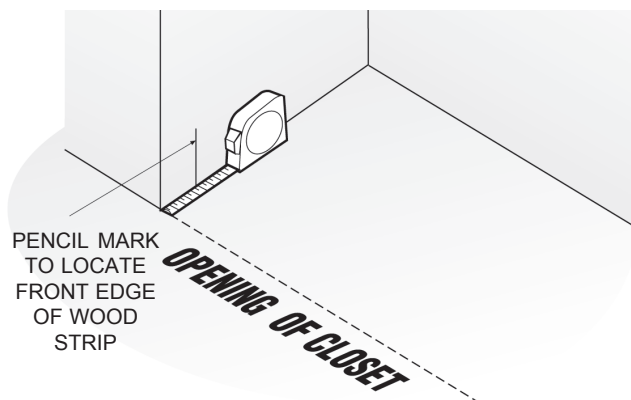

Figure 2
- C. Find the correct offset measurement using the **Offset Measuring Table (B Measurement)** for your particular installation. From the front edge of closet opening inward, measure using dimension from table and make a pencil mark on wall. Do this on both walls, i.e., right and left walls (See Figure 2).